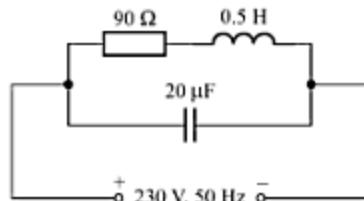

Fig. C-85
- C-141. For the circuit shown in Fig. C-85, calculate (a) the current in each branch and the total rms current,